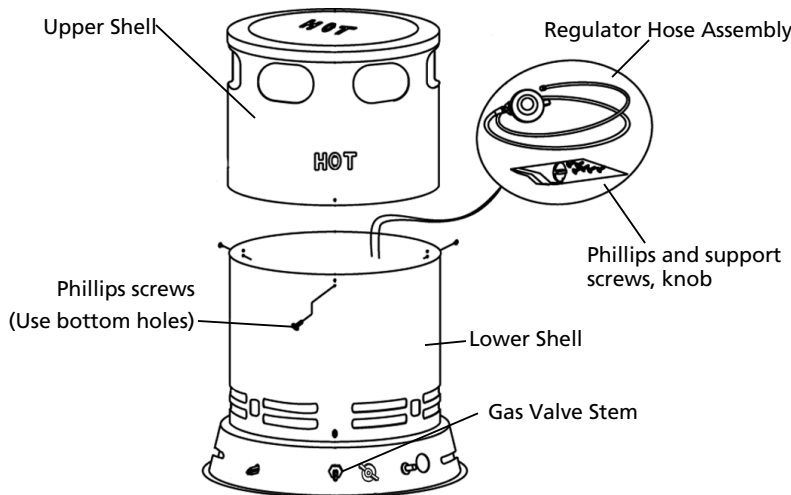

Figure 5 – Removing Hose Assembly - Screw Placement
7. For 6BY73B, attach knob to gas valve stem (Figure 5).